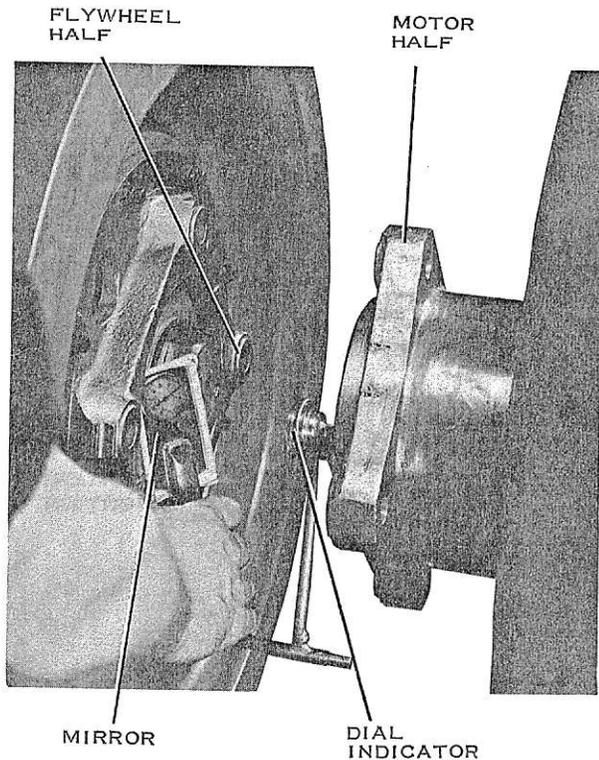

FIG. 9— Checking Angular Alignment
- ANGULAR ALIGNMENT - (Angular relationship of centerline of compressor shaft to centerline of motor shaft.) Using a dial indicator, measure the distance between the faces of the two hub flanges at four points - both sides, top and bottom, rotating the motor as required. (See Fig. 9.) Then adjust the position of the motor and use shims as necessary to obtain correct angular alignment.